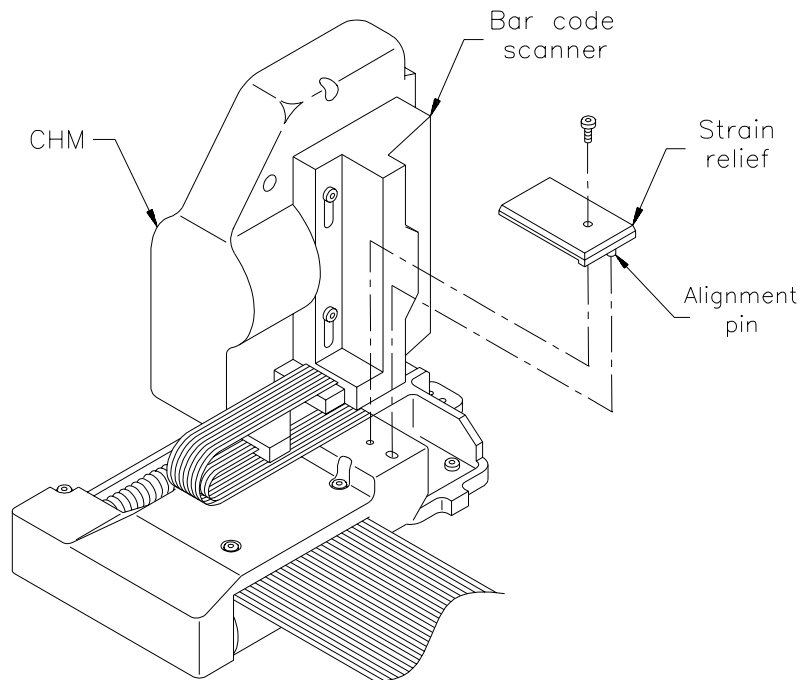

Figure 1 Removing the strain relief
1. Use a T-10 TORX screwdriver to remove the screw from the strain relief (see Figure 1). Remove the strain relief and set it aside — you will use the same strain relief when you install the new bar code scanner.